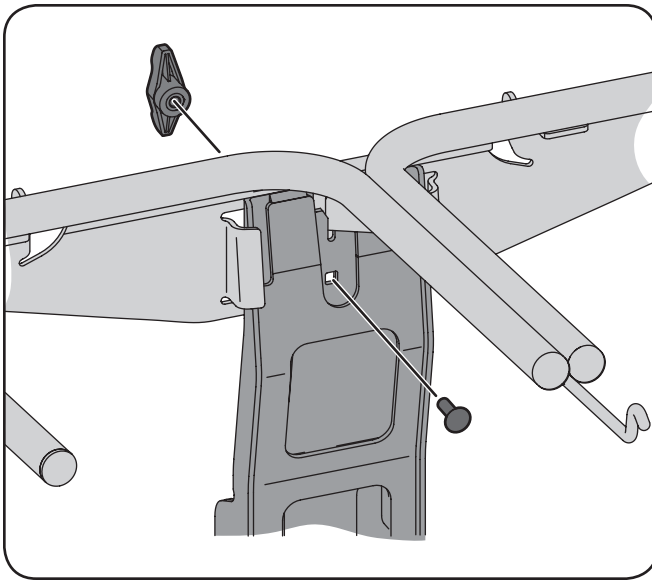

Figure 4-10
4. Install the hanger assembly onto the upright support bracket using a carriage bolt (710-0276) and wing knob (720-04122) from hardware pack 689-00328A. See Figure 4-10.